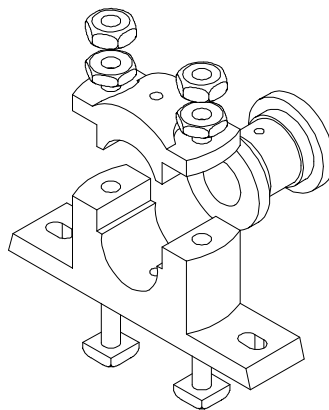

Figure 9-68 The Exploded Pedestal Bearing assembly
3. You may need to invoke the **Query Sel** option from the **GET SELECT** menu to select the axis of the Square headed bolt. Using the **Query Bin** select the central axis of the Square headed bolt to specify the direction of motion of the components and then move the Square headed bolts, Nuts, Cap, Lock Nuts, and Casting as shown in Figure 9-68.
6. Select the axis of the Brasses and select it to move as shown in Figure 9-68.